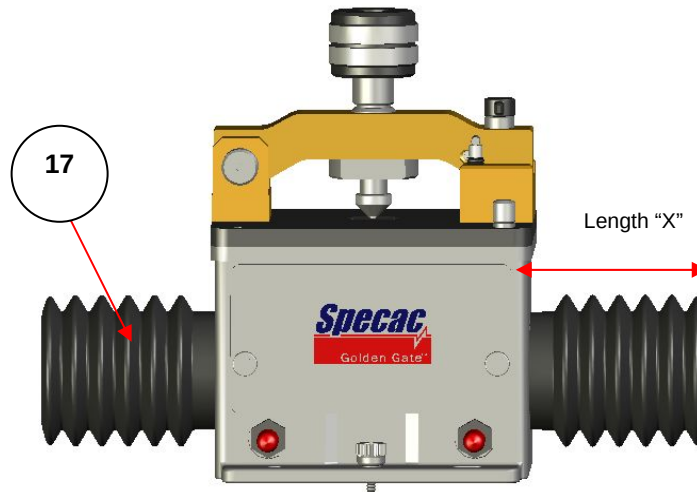

Fig 15: Fitting Purge Bellows to the MKII Golden Gate™ ATR System
1. With the Benchmark™ base-plate secured, and Golden Gate™ installed, measure the approximate lengths between the spectrometer side walls and the flat end of the ATR unit (Dimension 'X' – see Fig 15).
2. Using a sharp razor, cut lengths of the flexible purge tube which are equivalent to the measured length (X) plus an additional 10 mm for each.
4. Fit the flexible purge bellows over both end apertures as seen at Fig 15 and compress sufficiently to enable the assembly to fit into the spectrometer.
5. Ensure the bellows are not obstructing the beam and then tighten the accessory fixing thumb screw (4) to secure the Golden Gate™ ATR optical unit back onto the Benchmark™ base-plate.